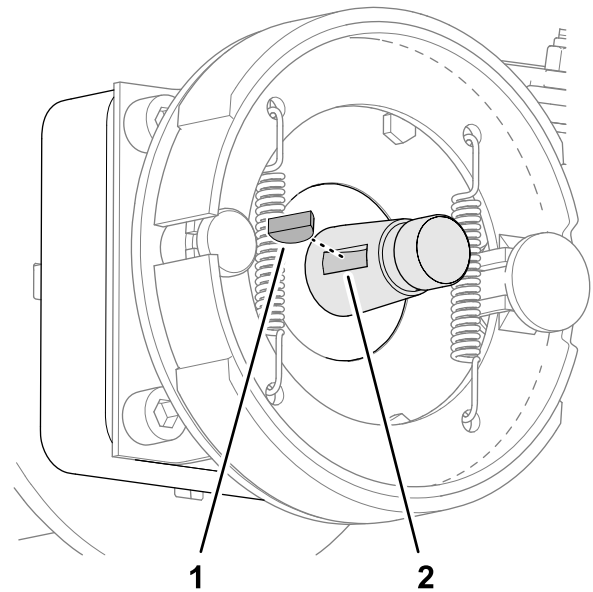

Figure 73
2. Insert the woodruff key into the groove of the wheel-motor shaft (Figure 73).